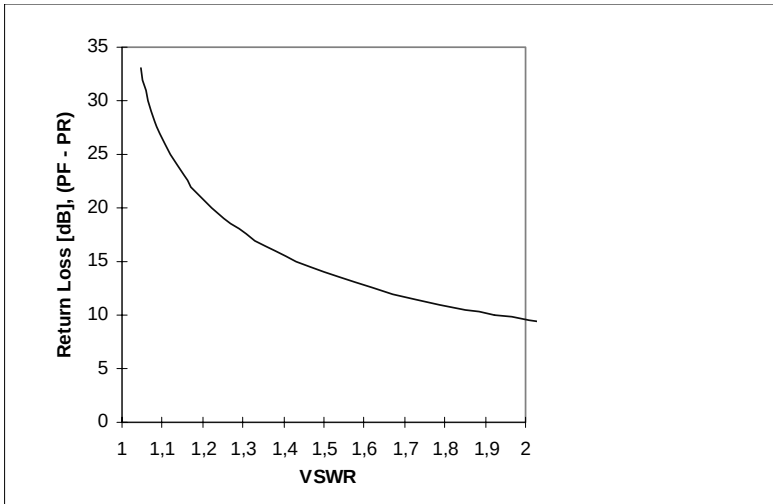

Figure 18 VSWR nomogram.
6. Calculate the VSWR value by using the following formula, or the nomogram in *Figure 18*.
7. Estimate the total feeder loss of the installation and use the corresponding row in the table above to check that the measured VSWR value (received from the nomogram in *Figure 18* or the formula above) complies with the required VSWR value.